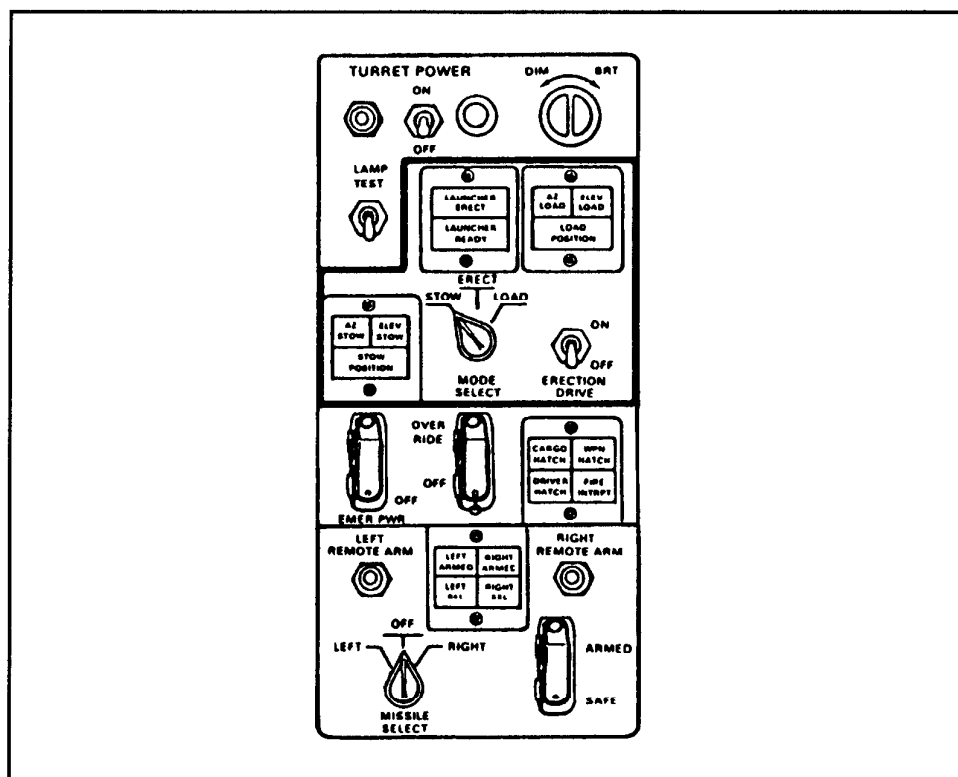

Figure 4-2. Gunner's control panel.
a. Erect Launcher from a Stow Position (Gunner). Before erecting the launcher, the gunner ensures that the top deck in front of the gunner's station is clear. He locks the M60 machine gun and pintle mount in the stow position and closes the gunner's hatch. He ensures the TURRET POWER switch is OFF. Before starting the engine, the driver turns off the radio. He then turns the master switch ON and starts the engine. He checks the driver's instrument panel and idles the engine at 1,200 to 1,500 rpm. Before the turret power is applied, the gunner checks the gunner's control panel and ensures the switches are as shown in Figure 4-2, page 4-6.